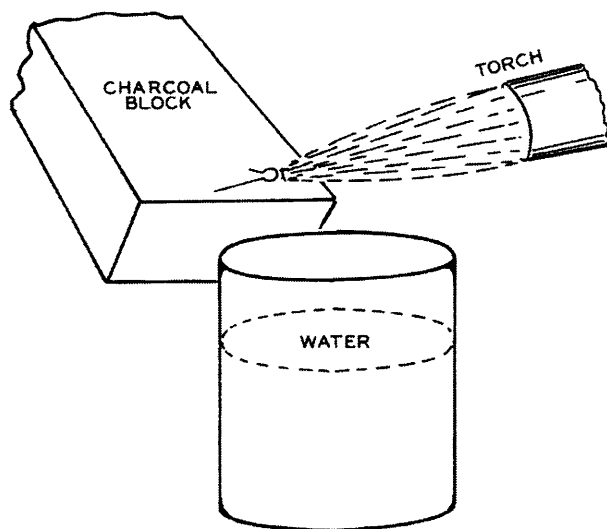

Fig. 27-19
3. Cover with soap and press lightly into a charcoal block, figure 27-19.